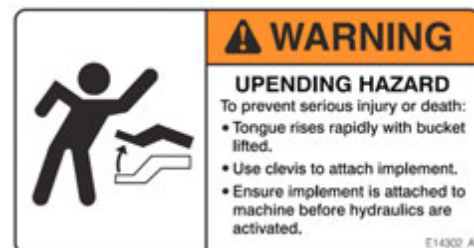

Figure 6.2: Install the bucket lift locks
4. Install one bucket lift lock (1) onto each cylinder rod; see *Figure 6.2*.